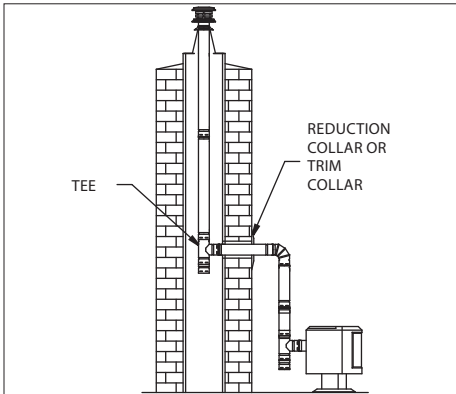

Figure 16
1. Set the appliance in its final location and mark the center of the hole where the pipe is to penetrate the masonry chimney (**Figure 16**). Insure that you comply with the manufacturer's specifications in regards to clearance and distances from combustible surfaces.
- B.** A Tee is installed at the bottom end of the vertical pipe (**Figure 16**).
- C.** A Reduction Collar or a Trim Collar is required to go around the pipe section that passes through the masonry to give it a finished look (**Figure 16**).